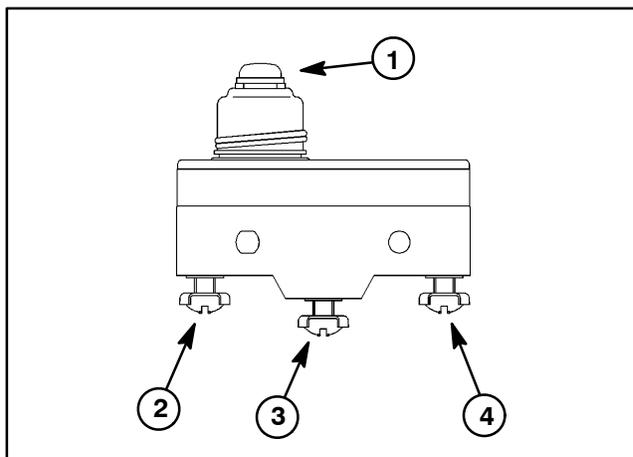

Figure 14
1. Note locations of wire connections at switch (Fig. 14). The common terminal and normally open terminal of the switch are used for the operator presence system. The normally closed terminal is not used.
3. Attach wire harness connectors to the common and normally open switch terminals (Fig. 14) Secure wire connectors to switch.